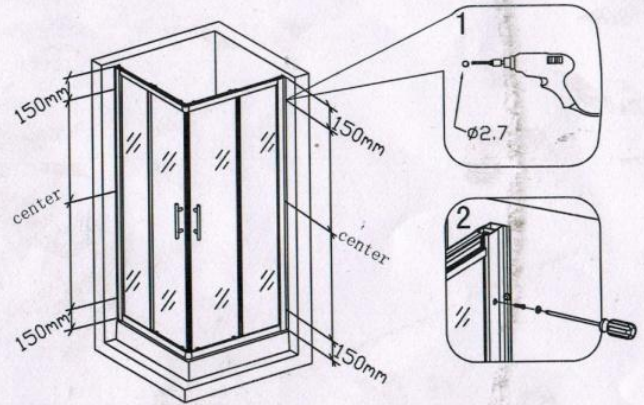

fig 16
14. Refer to the diagram (see fig 16) how to fasten the wall profile and glass profile. Drill 3 holes with **D=2.75mm drill bit** on the glass profile. One is the middle of the overlapping between glass profile and wall profile, the other two is 150mm up and down from the top and bottom of the profiles. Secure the wall profile and glass profile with **round head screws ST3.5x12(14)** then cover the **screw caps (19)**. (See Fig 16)